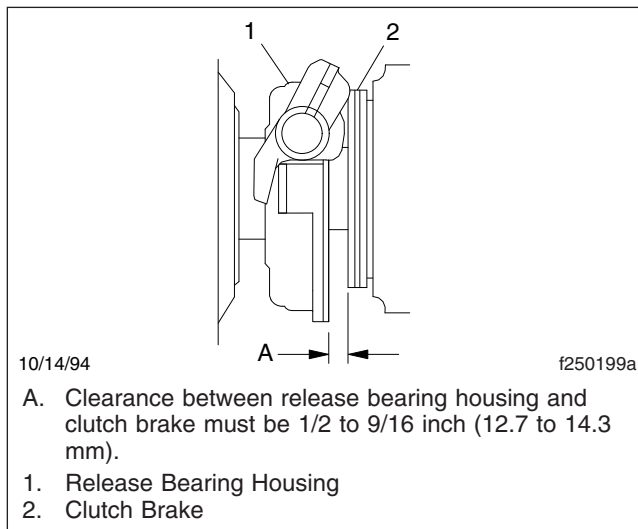

Fig. 8, Release Bearing Travel Measurement
3. Measure the release bearing travel. See Fig. 8 for the correct dimension to measure. Using both ends of the release bearing travel tool, check this gap as follows: